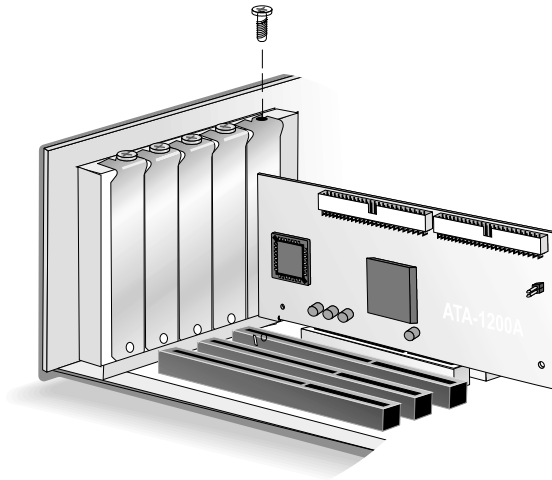

Figure 2-2 Installing the Adaptec ATA RAID 1200A in a PCI Expansion Slot
- 4 Insert the Adaptec ATA RAID 1200A card in the PCI expansion slot; press down firmly until it clicks into place, then replace the slot cover screw as shown in Figure 2-2.